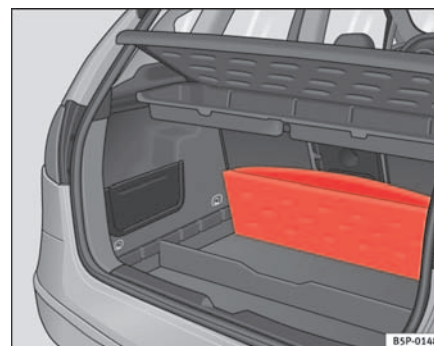

Fig. 104 Foldable luggage compartment cover
- Lift the luggage compartment floor and fold it back all the way⇒ page 133, fig. 104.